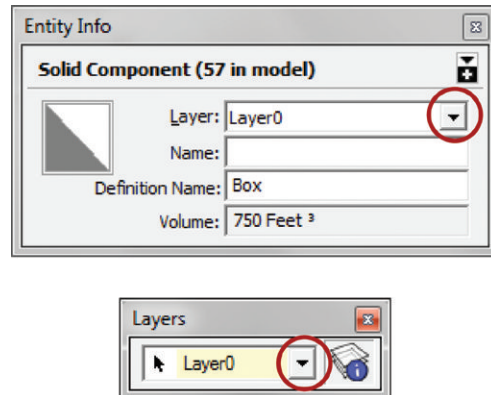

Figure 4.67 Entity Info and the Layers toolbar
- ☑ To assign an entity to a layer, right-click on the entity and choose Entity Info. Within the Entity Info dialog box, click on the Layers drop-down menu and choose a different layer. A Layers toolbar is available by clicking on the View drop-down menu and choosing Toolbars > Layers. The Layers toolbar works the same way as the Layer drop-down menu in the Entity Info dialog (Figure 4.67).